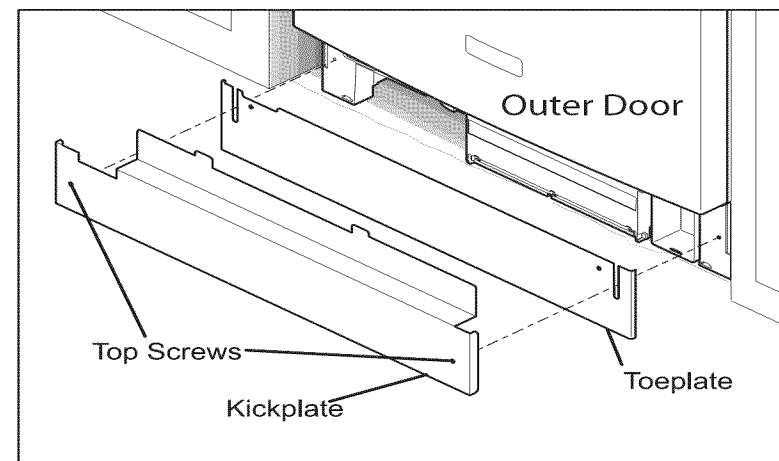

Figure 1
1. Remove two (2) screws at front of the kickplate assembly using a #2 Phillips screw driver.
2. Tilt and pull forward to remove see figure 1.